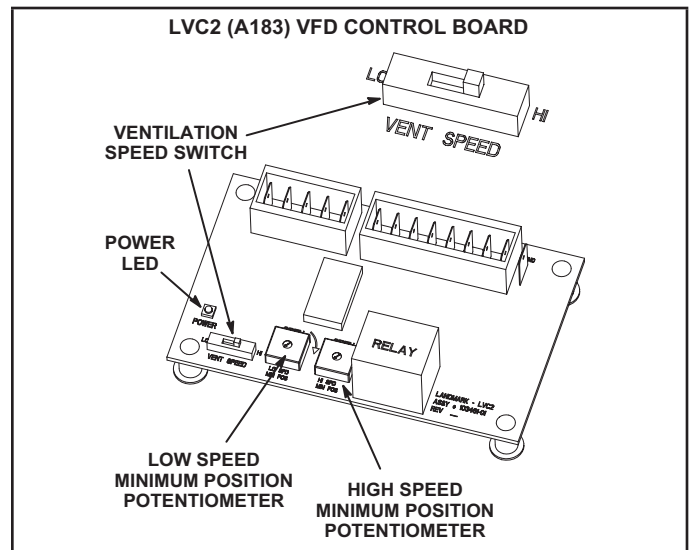

FIGURE 47
To save energy during ventilation, the blower speed can be set to low. This is accomplished by changing the ventilation speed switch on the VFD control board to "LO". See figure 47.
To maintain required minimum ventilation air volumes when the unit is in the occupied mode, two minimum damper positions must be set. A high and a low speed potentiometer are provided on the VFD control board to adjust minimum damper position. See figure 47.
- 5 - Check the power LED on the board. See figure 47.
- 8 - When LVC2 24VAC thermostat blower (G) input and 24VDC power are present, check the LVC2 low and high speed outputs. The LVC2 uses inverse logic to enable the blower; 1VDC will be read at the enabled blower speed terminal. See table 35.